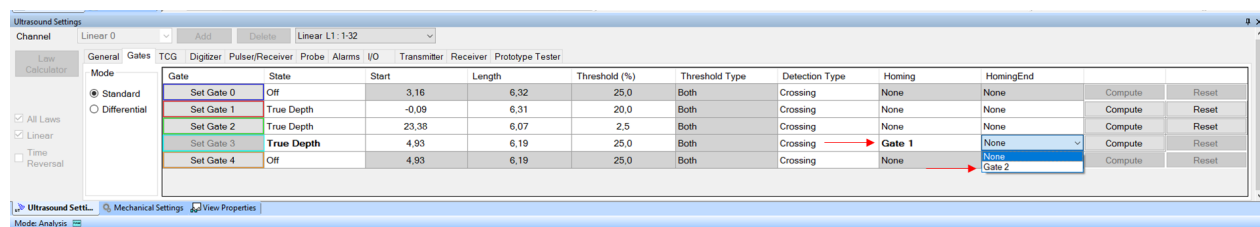

Figure 20: Activating Software Full Homing mode for a gate in Gates page
3. Then, as depicted in Figure 20, for the gate of interest (the one the user wants to set on mode Homing End):